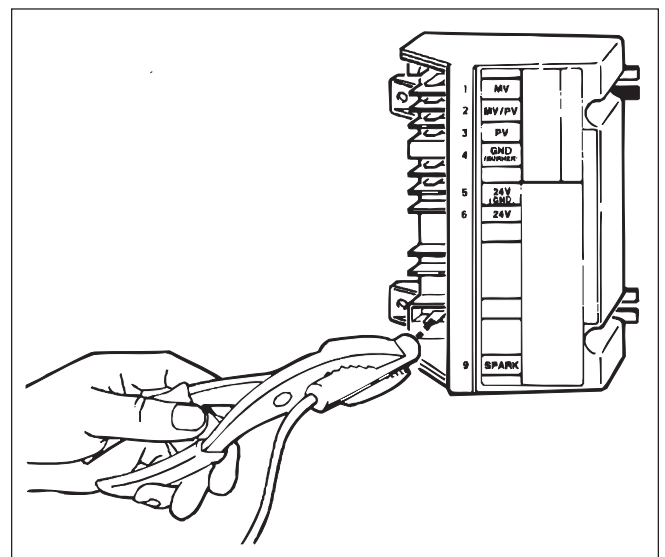

Figure 39. High voltage ignition test.
3. If no sparking is heard, pull the ignition lead from the ignition control and hold the bare terminal 1/8 to 3/16 inch (3.2 to 4.8 mm) from the ignition stud with a pair of insulated pliers (see Figure 39).